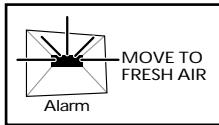

Figure 9
- The red light flashing, accompanied by the alarm “chirp”, indicates the batteries need to be replaced, or the unit has malfunctioned (see figure 9).